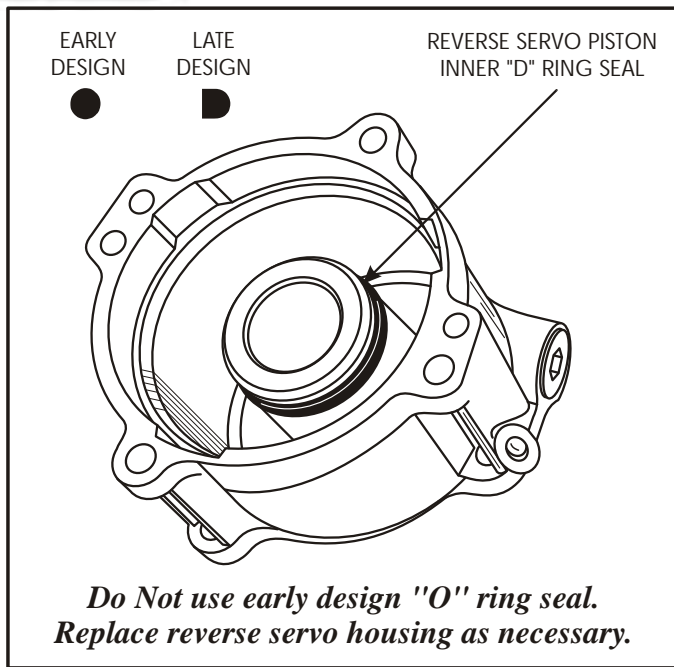

Figure 114
7. Install new reverse servo piston inner "D" ring seal into the groove in reverse servo housing, as shown in Figure 114, and lubricate with a small amount of Trans-Jel®.
**Note:** *If the original seal was an "O" ring seal (Early Design), replace the reverse servo housing and use the "D" ring seal. Refer to Figure 114 for the cross section.*